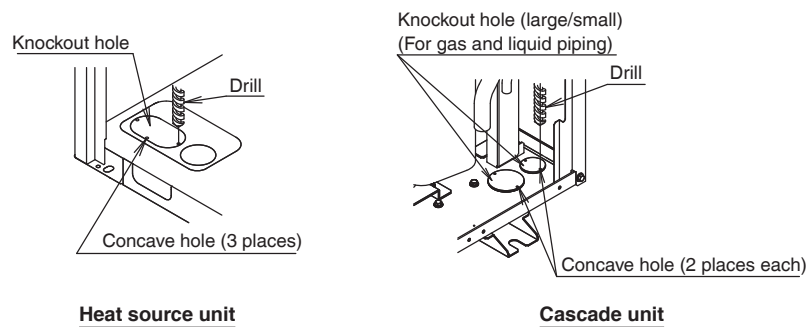

Fig. 11
- Drill a round hole using a drill centering on the concave hole of the bottom frame knockout hole, and open a knockout hole. (refer to Fig. 11)